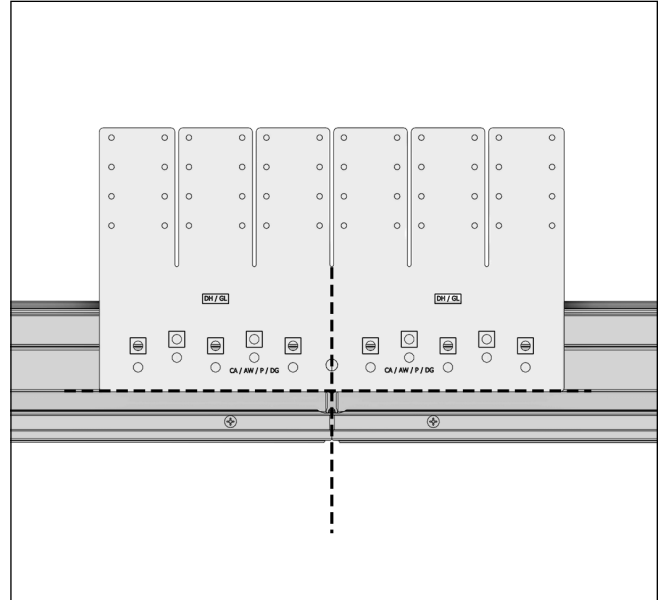

Figure 47
3. Center and align the bottom edge of the full gusset plate with the edge of the T-slot at all mull joints. If using a mounting flange, the gusset plate can rest on flange for alignment. See Figure 47.